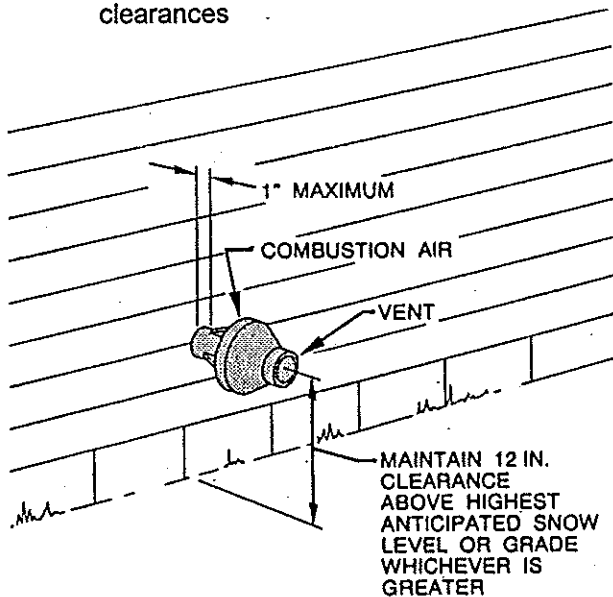

Fig 34 - Concentric Vent and Combustion-Air Side Termination
**SIDEWALL TERMINATION:** Locate assembly through sidewall, with rain shield positioned no more than 1-in from wall as shown in Fig. 34.